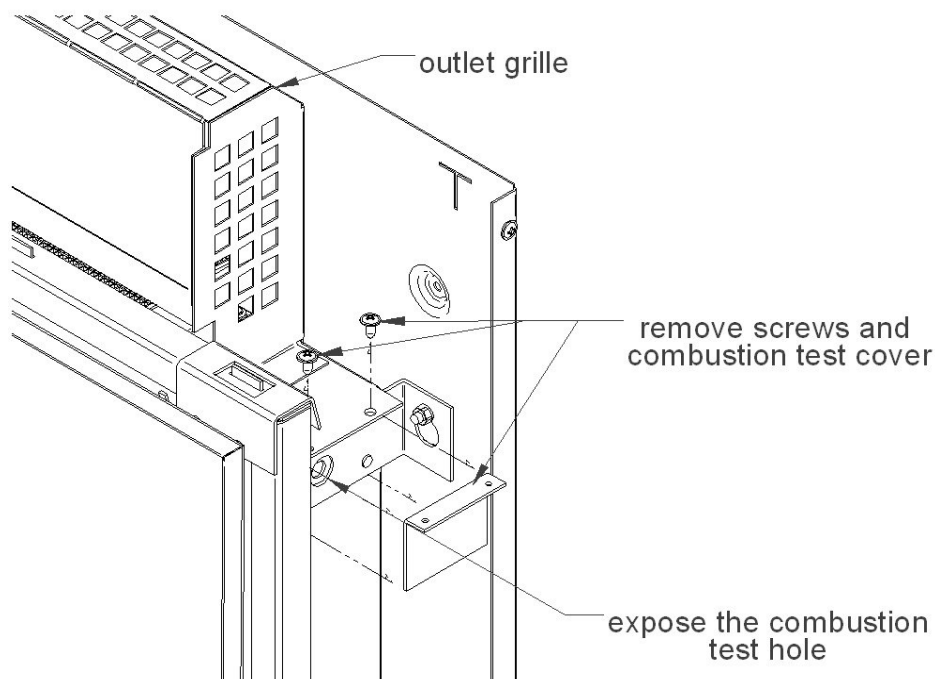

FIG. 6 – Fire wall angled View
- a) With the heater cold remove the combustion test cover (Fig.6).